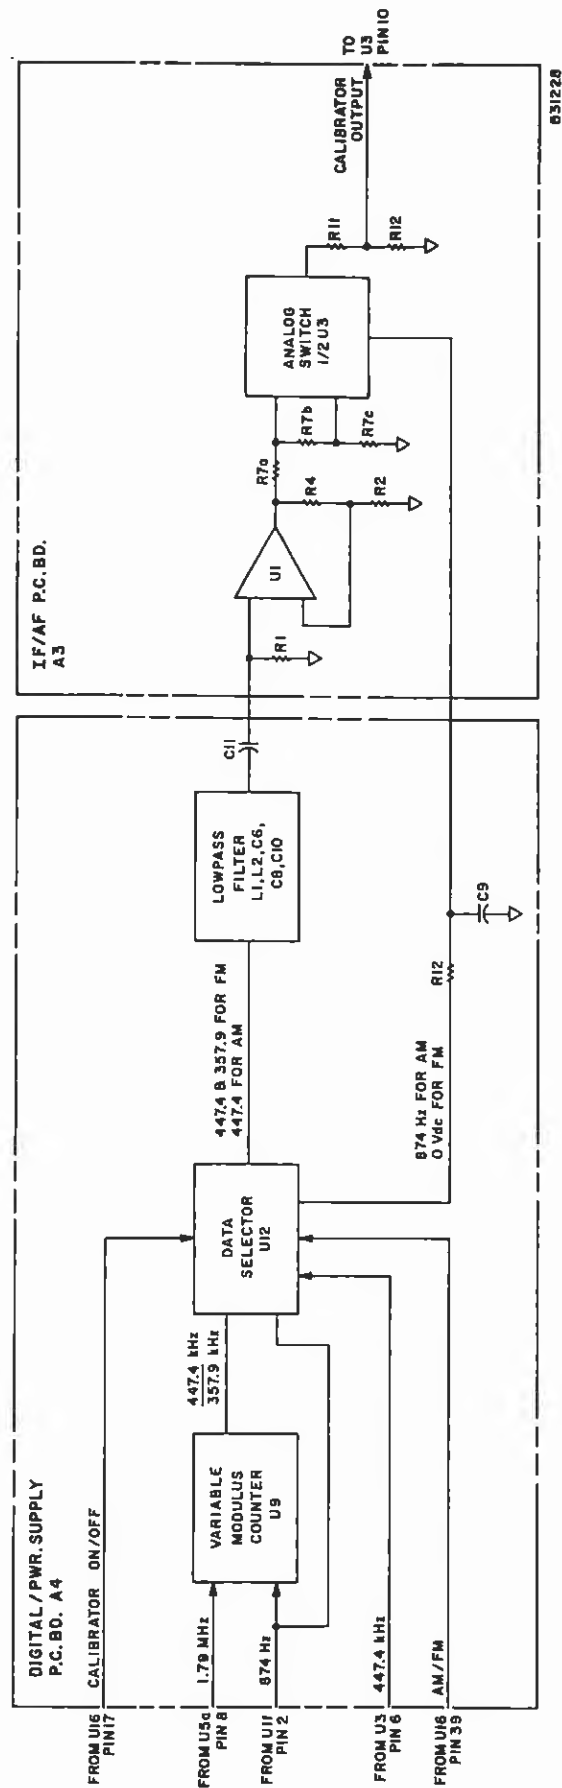

Figure 3-5. Calibrator Circuits: Detailed Block Diagram
- (2) The active detector circuit, which comprises transistors Q4 through Q6, diodes CR6-CR7, and associated components, converts the input current into two half-wave-rectified signals. The circuitry of Q4-Q6 yields maximum gain and a high output impedance for driving the feedback network. The two half-wave-rectified signals at the outputs of CR6 and CR7 are added to complete the feedback path.
- (3) The output at detector diode CR7 is a signal that contains a d.c. component proportional to i.f. level, and an a.c. component proportional to modulation depth. This signal is lightly filtered by R47 and C27, and amplified by U9a. The output of U9a is connected to the a.m.-f.m. switch U14.
- (4) A portion of the linear active detector's output is coupled to a limiter circuit via impedance transformer Q2 and associated components. The limiter, consisting of CR4, CR5, R22 & R17, removes most a.m. from the i.f. signal. The resulting signal is amplified to TTL levels by amplifier Q1, then differentiated by C9, R19 and R20. The TTL gates U6a and U6b amplify the differentiated signal into a narrow TTL pulse to drive U7, a monostable multivibrator.
- (5) The period of U7 is 1.25 μ s, approximately. The network consisting of R43-R46 and CR8 confines the peak-to-peak amplitude of U7's output to four volts. As the intermediate frequency changes, the duty cycle of the multivibrator--and consequently the average value of the waveform--changes proportionally.
- (6) The signal is lightly filtered by R48 and C28, then amplified and level-shifted by U9b. The signal is routed to the a.m.-f.m. switch U10, and to the audio circuits.
c. Calibrator Circuits. The calibrator circuits provide the reference calibration signals for the 8210's a.m. and f.m. detectors. See Figure 3-5. (In addition to the circuit description given below, technical information on design and operation of the calibrator circuits appears in Appendix A.)
- (1) The 1.79 MHz signal from U5a, pin 8, is connected to the clock input of synchronous counter U9. The counter is configured to self-load its data inputs at the end of each count cycle. By varying the input data with an 874 Hz signal from U1f, pin 2, the divide modulus is changed from four to five. The signal that results synchronously switches from 357.9 to 447.4 kHz, producing an average frequency of 402.6 kHz and deviation of 89.48 kHz, p-p. This signal is used to calibrate the f.m. discriminator. The signal is connected to data selector U12, along with a signal at 447.4 kHz from U3, pin 6, and an 874 Hz signal from U1f, pin 2. The outputs of the data selector are controlled by the signals from U-16, pins 39 and 17. During the calibration cycle U16, pin 17, is "low;" pin 36 is set "high" for a.m. calibration, and "low" for f.m. calibration.
- (2) When the calibration routine initially selects AM FUNCTION, the outputs of the data selector are the signal from U3, and the 874-Hz signal from U1f, pin 2. The 447.4 kHz signal is routed through a low-pass filter consisting of L1, L2, C6, C8 and C10 to the i.f.